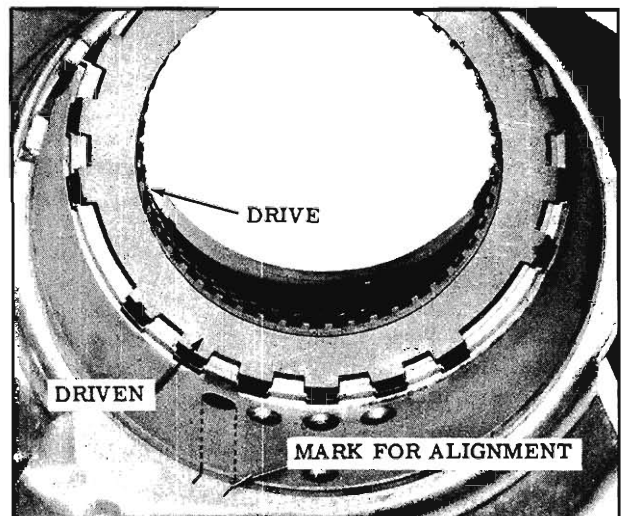

Fig. 6-93 Alignment Marks
5. Mark the case to indicate the keyhole to assist in alignment for installation of case support. (Fig. 6-93)